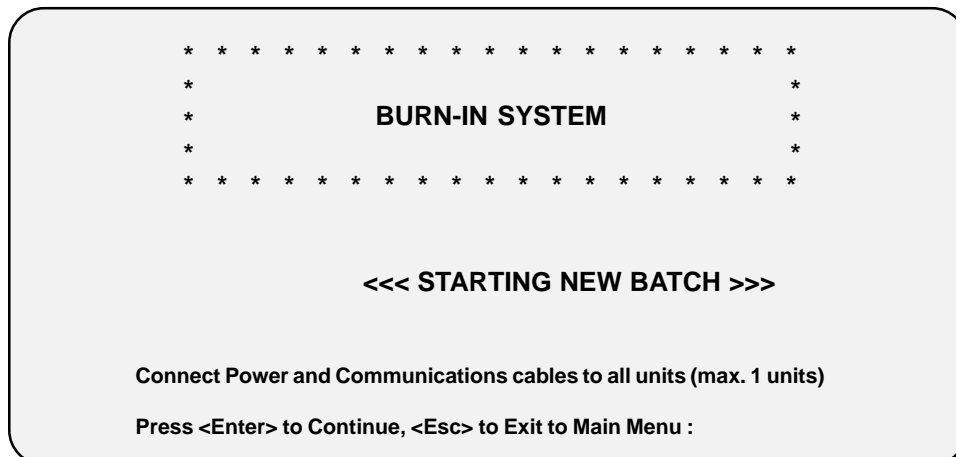

Figure 4. Starting new batch
5. Once the choice is entered, the applicable burn-in system **Starting New Batch** menu appears on the screen (Figure 4) prompting you to connect power and communications cables and to insert, if applicable, the camera back adapter to the unit under test.